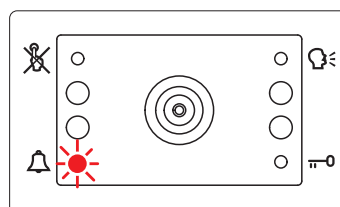

Fig. 3 Call in progress
- When a visitor presses a call button the unit emits an intermittent deep call tone and in correspondence with the tone the  red LED flashes (**Fig. 3**) until the resident answers or the programmed call time expires.